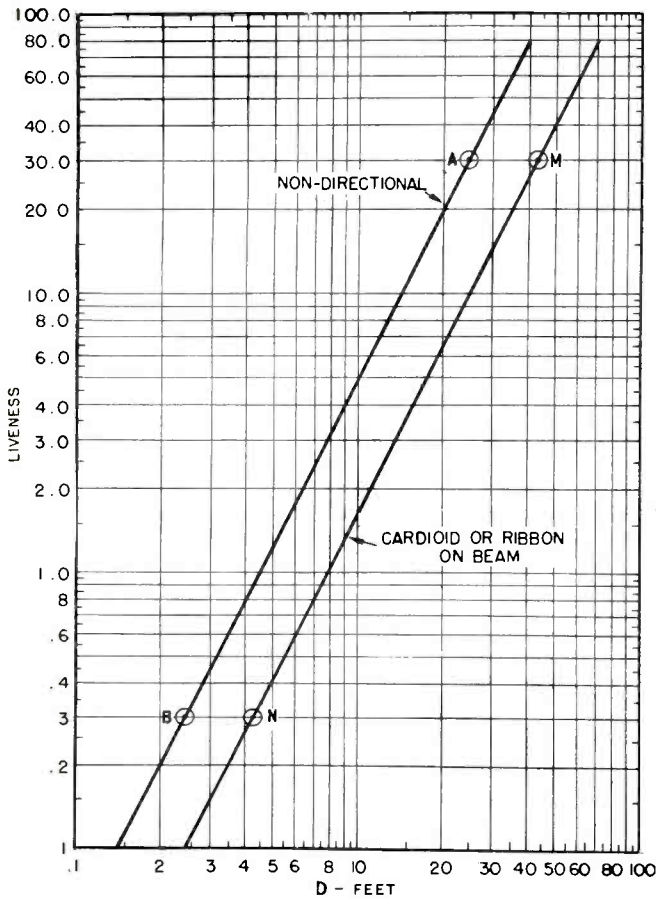

Figure 5—Typical chart used for positioning General and Accentuation Microphones in active studios.
Where studios are in active use, a set of curves as shown in Figure 5 may be prepared. To aid you in preparing such a chart the following typical case is worked out in detail.
Plot these two points (A and B of Figure 5) and connect them with a straight line. From this chart the distance D corresponding to any desired value of liveness may be obtained for a nondirectional microphone.
To obtain the plot for bidirectional or cardioid microphones proceed in a similar manner letting $G_p = 3$. Then we obtain the points M and N, Figure 5. Connect these with a straight line.
4. Determine the distance D from Equation (2) or from the studio chart typified by Figure 5. If you are using this microphone for accentuation of the string section or any other group of artists, D represents the distance from the microphone to the nearest artist in that group.